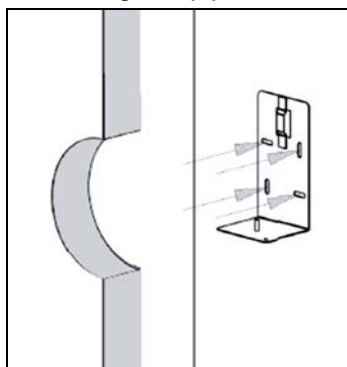

Figure 1 – Fixing the Support Bracket
2. Fix the elbow support bracket (Fig. 1) with 4 screws on the wall of the chimney or chase.